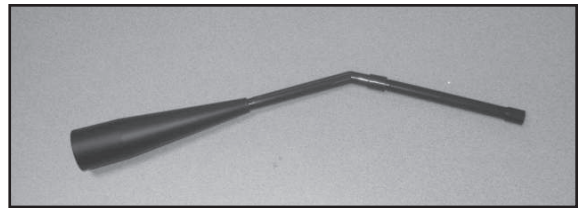

Figure 17.3
3. Assemble the crevice tool from the micro cleaning kit to attach to a Shop Vac. **Figure 17.3**.